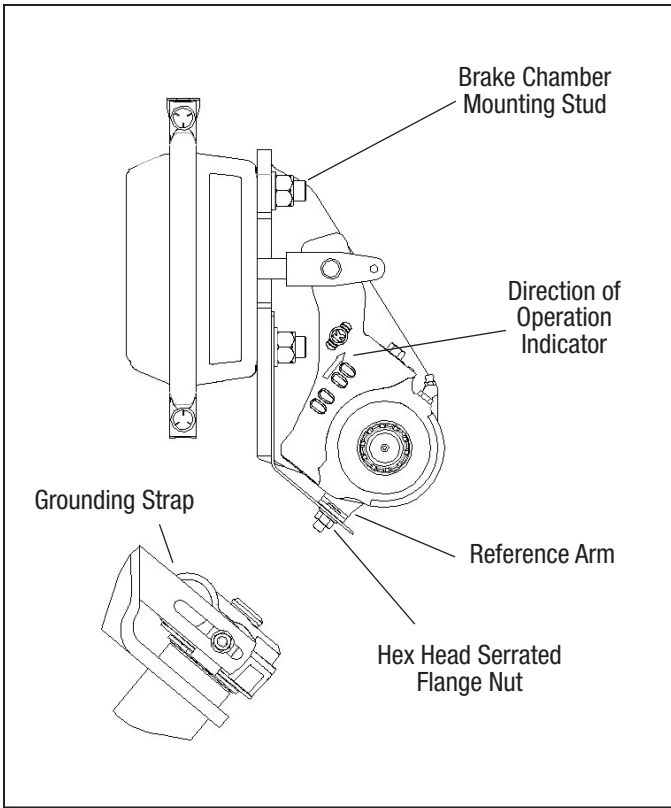

Figure 3 – Threaded Stud Reference Arm
The threaded stud reference arm utilizes a threaded fastener and grounding strap to provide the home position for the adjusting device. (Refer to Figure 3)
2. Install the slack adjuster on the brake camshaft so that the direction of operation indicator points away from the brake chamber (*Refer to Figure 3*). Use enough washer spacers to align the slack adjuster to the center of the pushrod. Add washers to the outside of the slack adjuster until the snap ring groove is just visible. Install the snap ring or E-clip. The total end play allowed for the slack assembly, as well as the cam, is 0.005 inches minimum to 0.025 inches maximum.